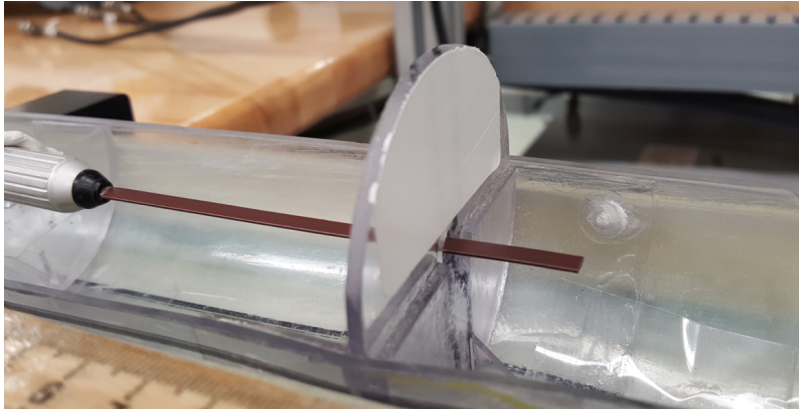

Figure 74 Degausser Control unit. Red box indicates the toggle switch for switching to manual mode.
2. Set the Degausser System Controller to Manual mode. And set the axis selector to Z (**Figure 74**).